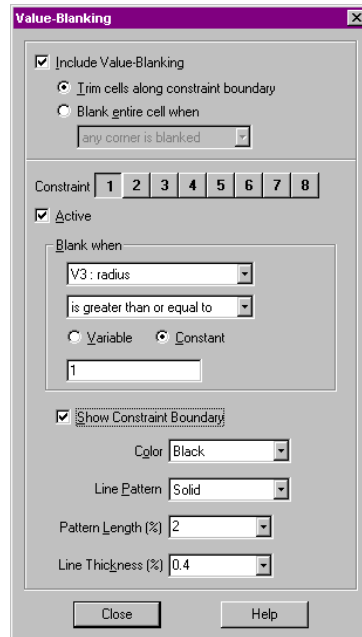

Figure 27-4. The Value-Blanking dialog in 2D and 3D frame mode, set for precise blanking.
1. From the Style menu, choose Value-Blanking. The Value-Blanking dialog appears as in Figure 27-4.